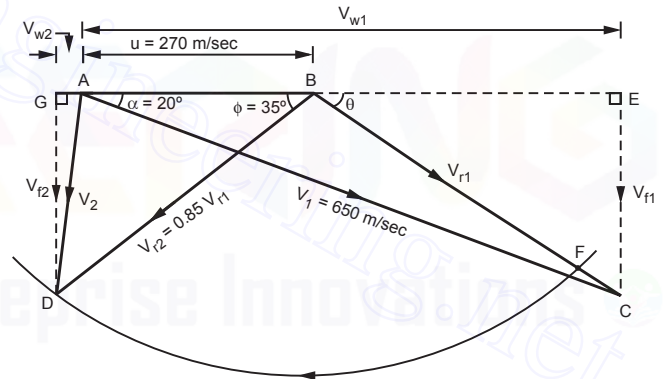

Fig. 3.21
- Consider a suitable scale as 1 cm = 50 m/sec. and draw velocity triangles as shown in Fig. 3.21.